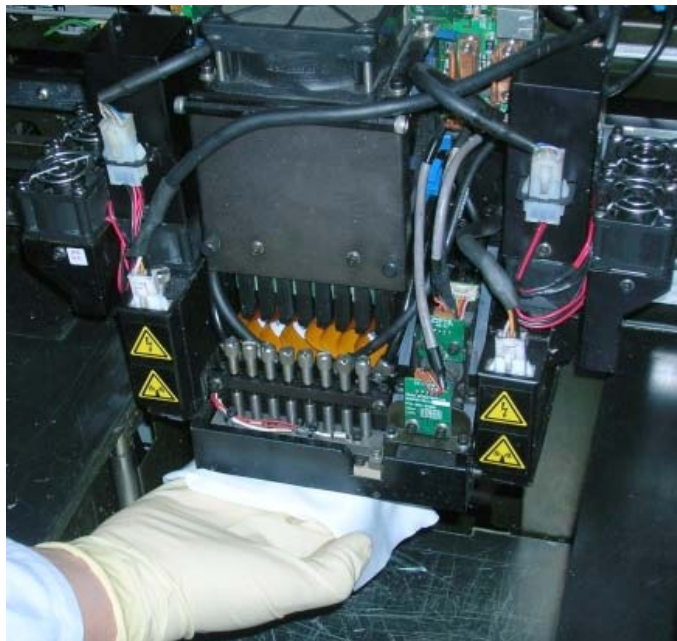

Figure 6-21: Cleaning the heads
- Clean the orifice plates, with a back-and-forth motion (see figure 6-21). Use the mirror to make sure that you have removed all of the residue material.